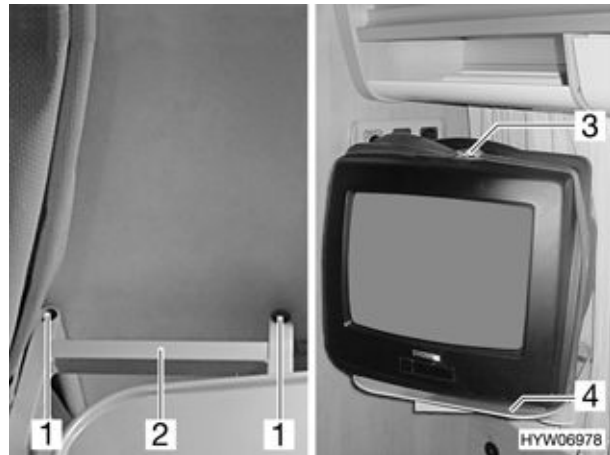

Fig. 69 Television
- Push rods (Fig. 69,2) of the support (Fig. 69,4) into holder (Fig. 69,1).
- Place TV unit onto support and secure it with retaining strap (Fig. 69,3).